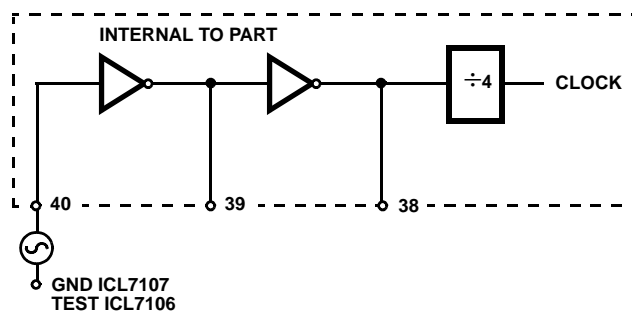

FIGURE 9A.
1. Figure 9A. An external oscillator connected to pin 40.